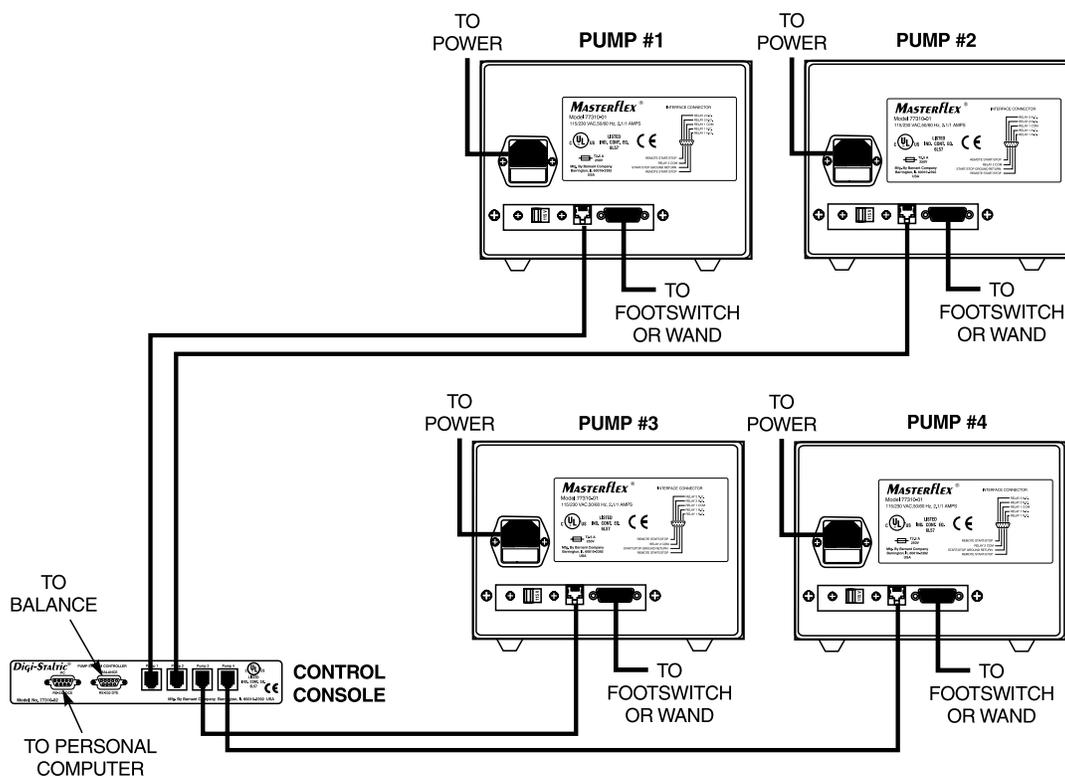

Figure 4. Interconnecting Components
Refer to Figure 4, and connect the components of the dispensing system. Ensure that the plugs snap firmly into the connectors on the back of the control console and on the back of each pump drive.
Ensure that the AC outlet is grounded and meets all local and national codes. The use of ground-fault interrupted AC power is recommended because of liquid handling. Use the supplied power cord for each pump in the system. Refer to Figure 4, and attach the female plug to the connector on the back of the pump drive. Plug the male connector into a properly grounded AC outlet.
3. Refer to Figure 4, and connect the balance to the connector labeled BALANCE on the back of the control console.
2. Refer to Figure 4, and connect the DB-9 connector from the footswitch or dispenser wand to the nine-pin connector on the back of the pump drive.